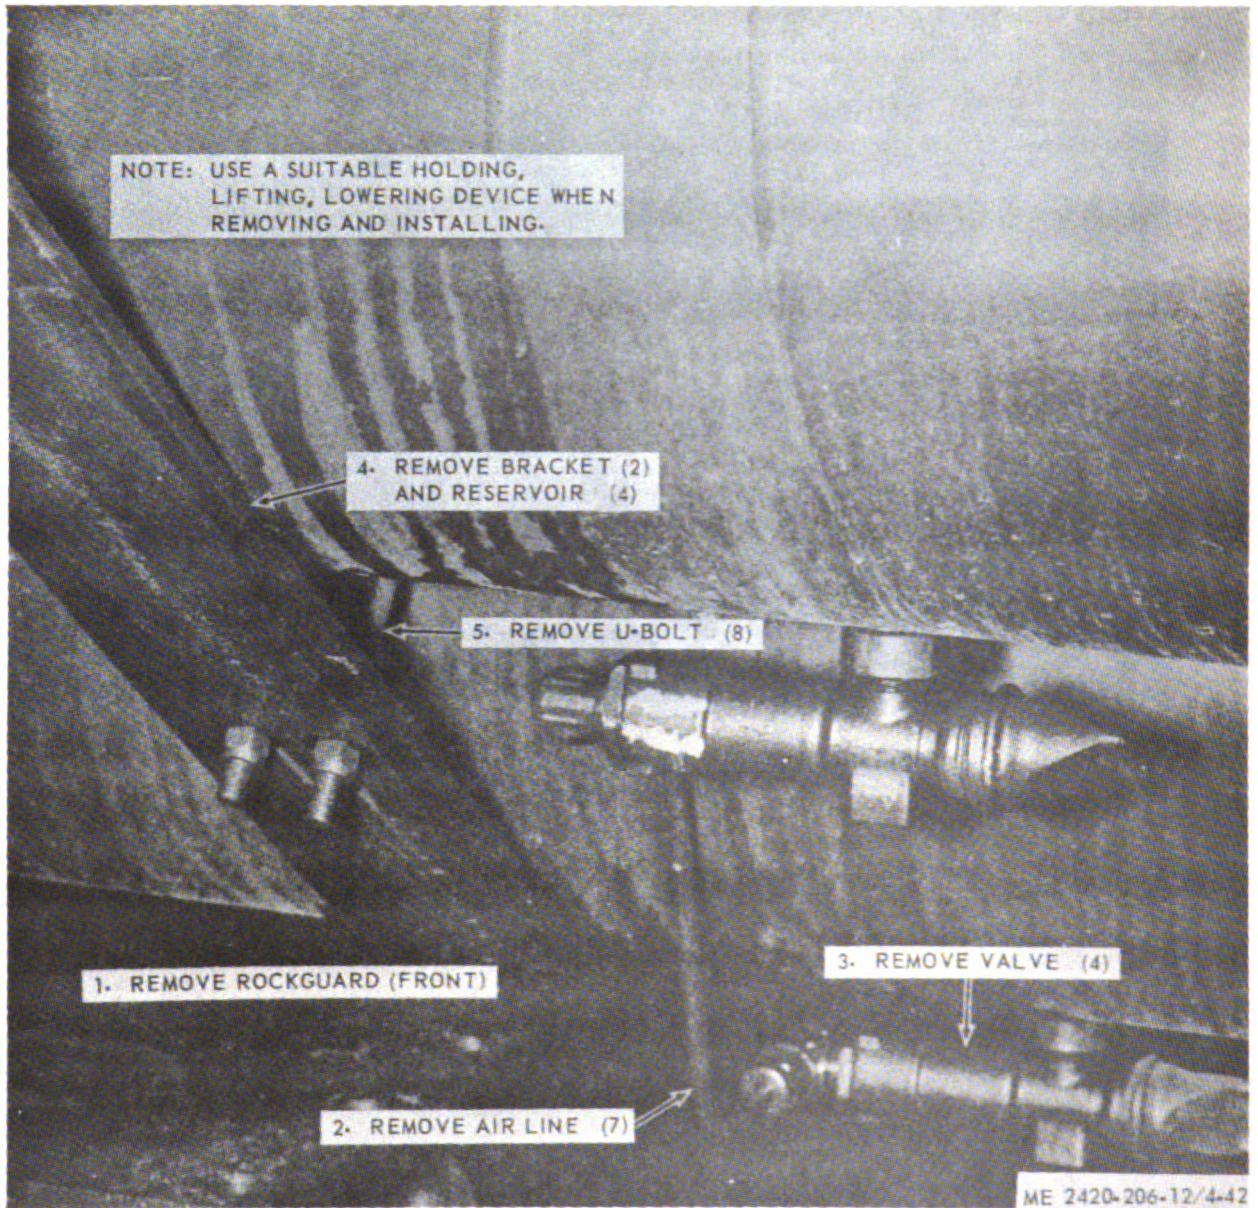

Figure 4-42. Air reservoirs, removal and installation.
a. Removal. Remove air reservoirs as illustrated in figure 4-42.
(1) Clean all parts and dry thoroughly. Flush
(2) Inspect for cracks, breaks and damage. Replace defective parts as necessary.
c. Installation. Install air reservoirs as illustrated in figure 4-42. Check for air leaks.